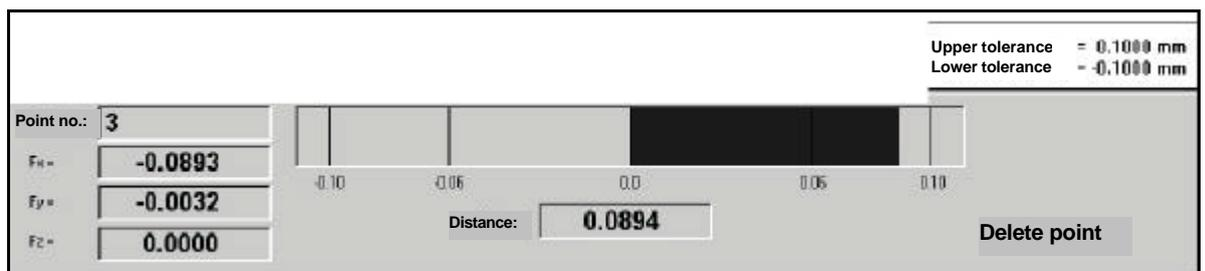

Figure 6-2
- In addition to the graphic representation of the deviation, a window will appear, displaying the coordinates of the point and its deviation relative to the currently defined tolerance range (see Fig. 6-2).